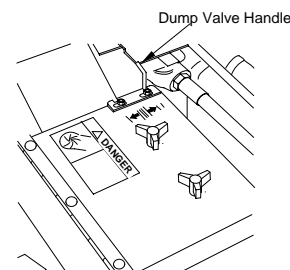

Figure 4-2 Dump Valve Control
12. **Dump Valve Control (Figure 4-2).** Located under the seat, is used to "free-wheel" the mower. Pulling the lever back and locking in place allows the unit to move under hydraulic power. The lever must be in this position during operation of the mower. Pushing the lever forward and locking in place allows the mower to be moved by hand (free-wheeling).